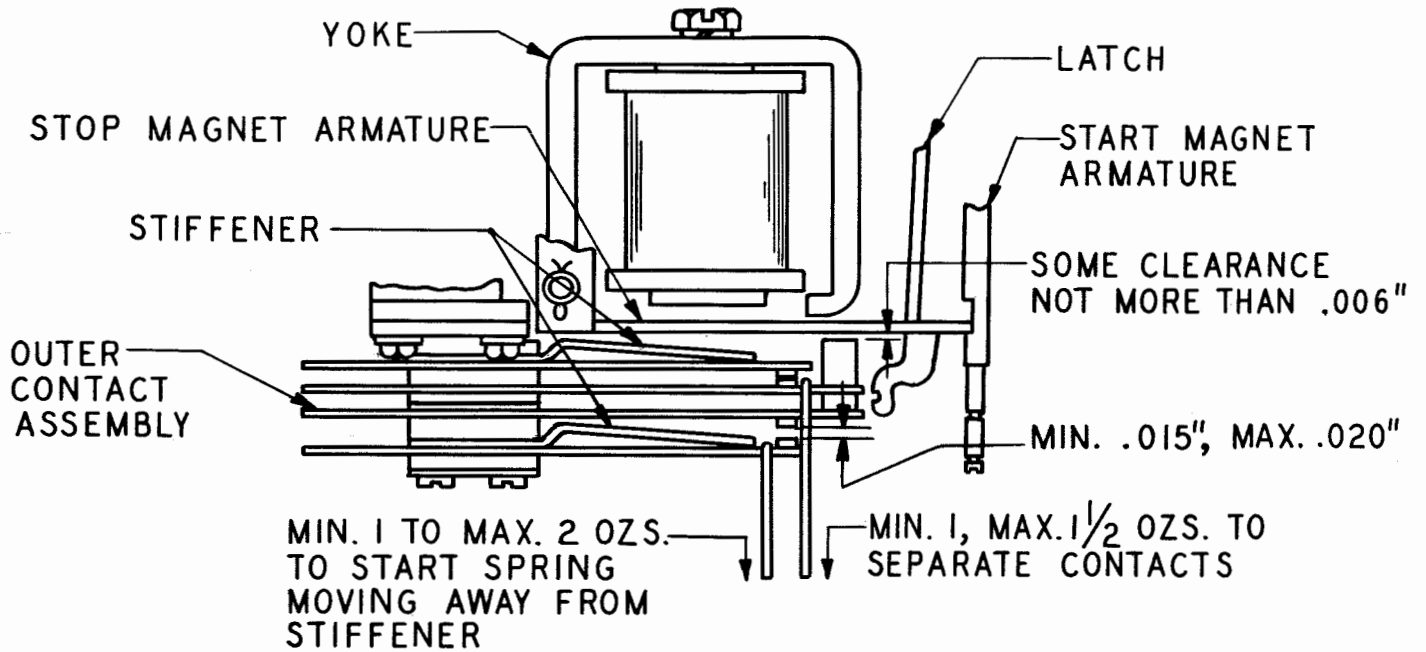

Figure 17
2.41 The Outer Contact-spring Assembly should meet the following requirements with the stop-magnet armature held operated by the notch in the start-magnet armature. (See Figure 17.)